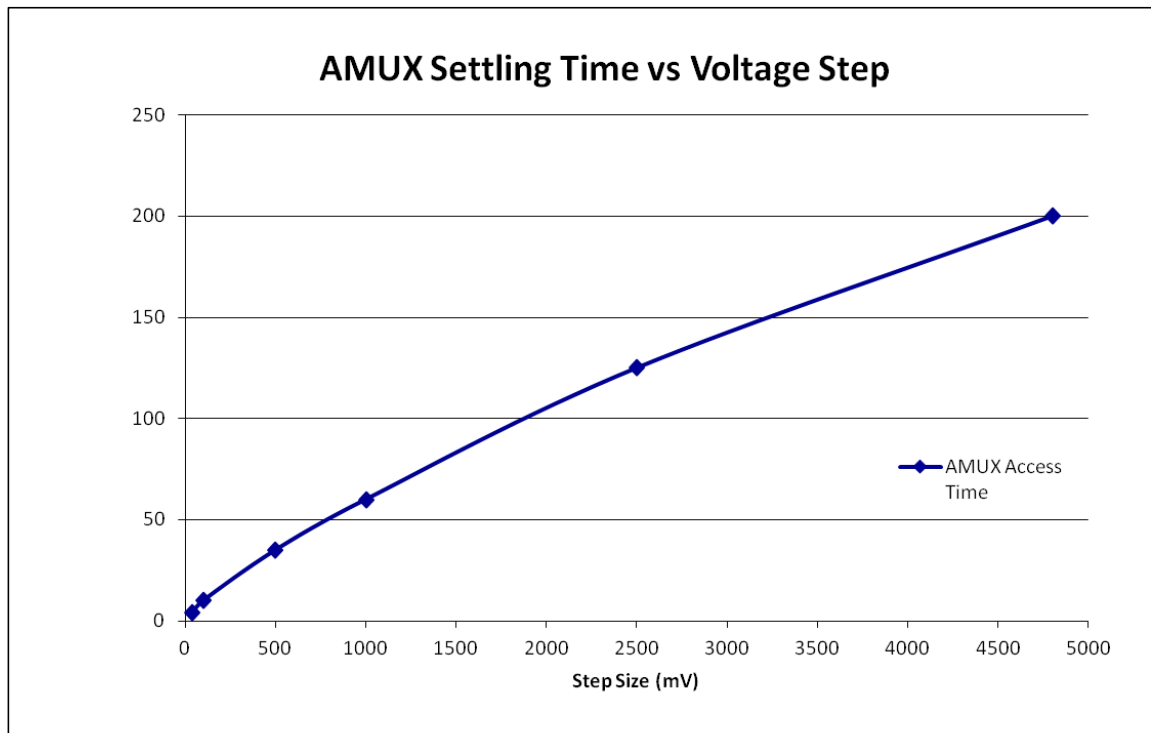

Figure 10. AMUX access time
- AMUX settling time to be within 10 mV accuracy. $AMUX_{VALID}$ is dependent of the voltage step applied on the source SGx pin, or the difference between the first and second channel selected as the multiplexed analog output. See Figure 10 for a typical AMUX access time versus voltage step waveform.